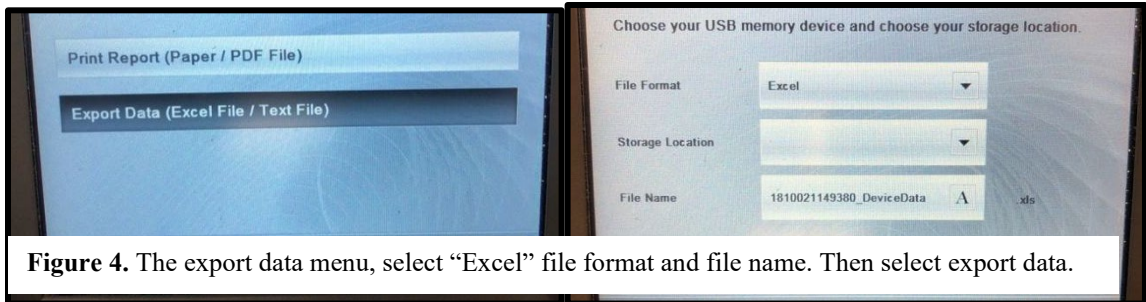

Figure 4. The export data menu, select “Excel” file format and file name. Then select export data.
14. Click menu then data memory, then measured data, then click filter. Select the sample name containing value (either the cruise name or “NCRMP”, “ERL, etc. then click ok. (Figure 4).